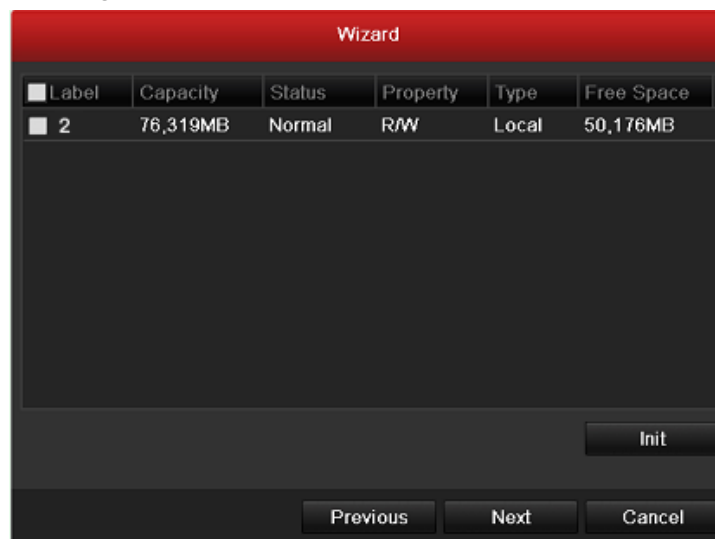

Figure 2. 7 HDD Management
7. Click **Next** button after you configured the network parameters, which takes you to the **HDD Management** window, shown in Figure 2. 7.